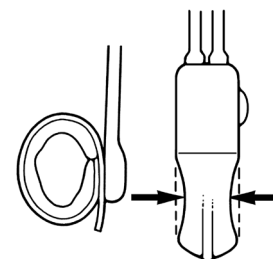

Figure 4-40. Activate (Reactivate) the System (get out of deactivation status)
5. Push deactivation button a few times to loosen the poppet. (**Figure 4-40**). Then give the pump bulb a quick, forceful squeeze.